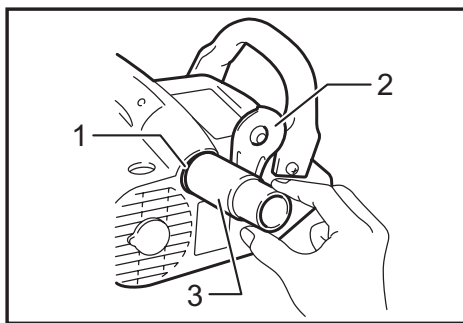

Fig.5
► **Fig.5:** 1. Dust port 2. Cover plate 3. Joint